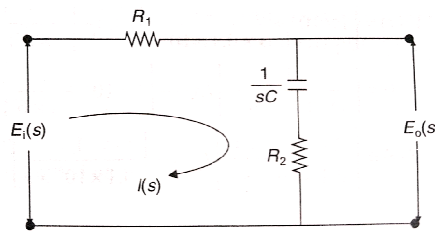

Fig. Q2(a)
2. a) Find the transfer function for the electrical network shown in **Fig.Q2(a)**. (7M)
- b) For the system shown in **Fig.Q2(b)**, find the transfer function $G(S)=\frac{\theta_2(s)}{T(s)}$. (7M)